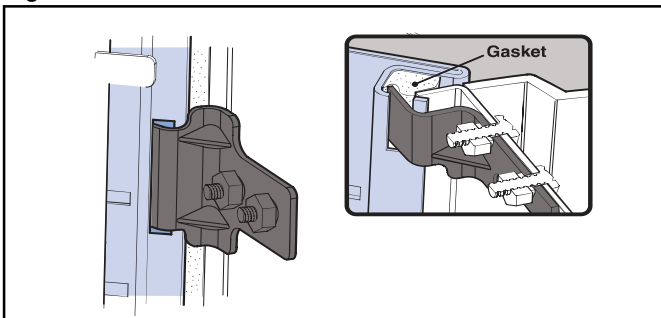

Figure 13 Inserting door tabs into cabinet slots
Step 2: Insert tabs into cabinet slots. Edge of door should fit into channel against gasket (see detail). See Figure 13.